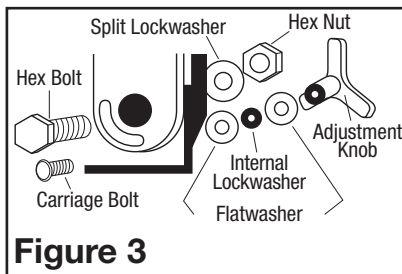

Figure 3
4. Insert the 1/2" x 1" hex bolt (3/4" head) through the motor neck, and the flag bracket. Place 1/2" diameter split lockwasher then the 1/2" diameter hex nut (3/4" head) and tighten fully with 2 adjustable wrenches (**Figure 3**).
5. From the same side of the motor neck, insert one 1/4-20 x 1 5/8" carriage bolt through the arc-shaped slot in the motor neck and hole in the flag bracket (**Figure 3**).
6. **To Fasten:** Place one 1/4" flatwasher, one 1/4" internal tooth lockwasher, a second 1/4" flatwasher and then tighten the adjustable knob over the remaining threads (**Figure 3**).